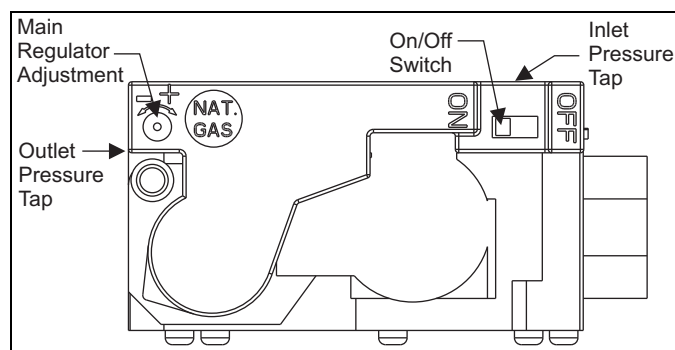

FIGURE 45: Gas Valve
Inlet and manifold gas pressure may be measured by connecting the "U" tube manometer to the gas valve with a piece of tubing. Follow the appropriate section in the instructions below. Refer to Figure 45 for the locations of the pressure ports on the gas valve.
4. Refer to Figure 45 for location of pressure regulator adjustment screw on main gas valve.